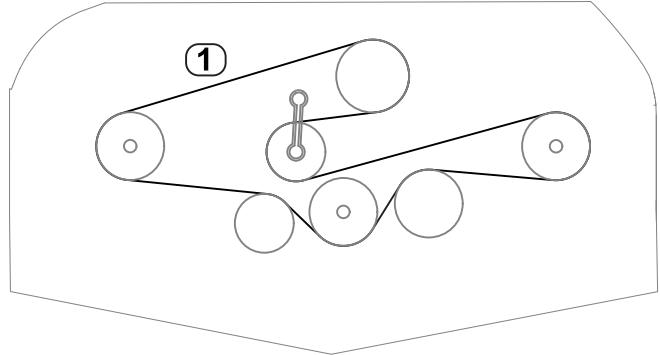

Figure 28
- Using a torque wrench or similar tool to hold the idler pulley, route the new belt around the spindle pulleys and idler-pulley assembly as shown in Figure 28.